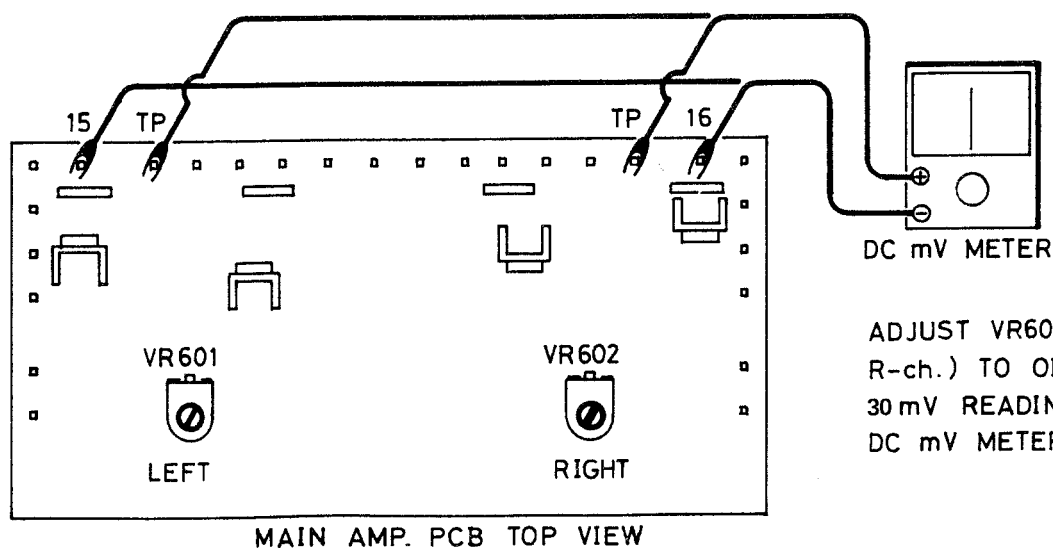

Figure 1. Bias (Idling Current) Adjustment Hook-up
2. Adjust the potentiometer VR601 to obtain a 30mV reading on the DC milli-volt meter. See figure 1.